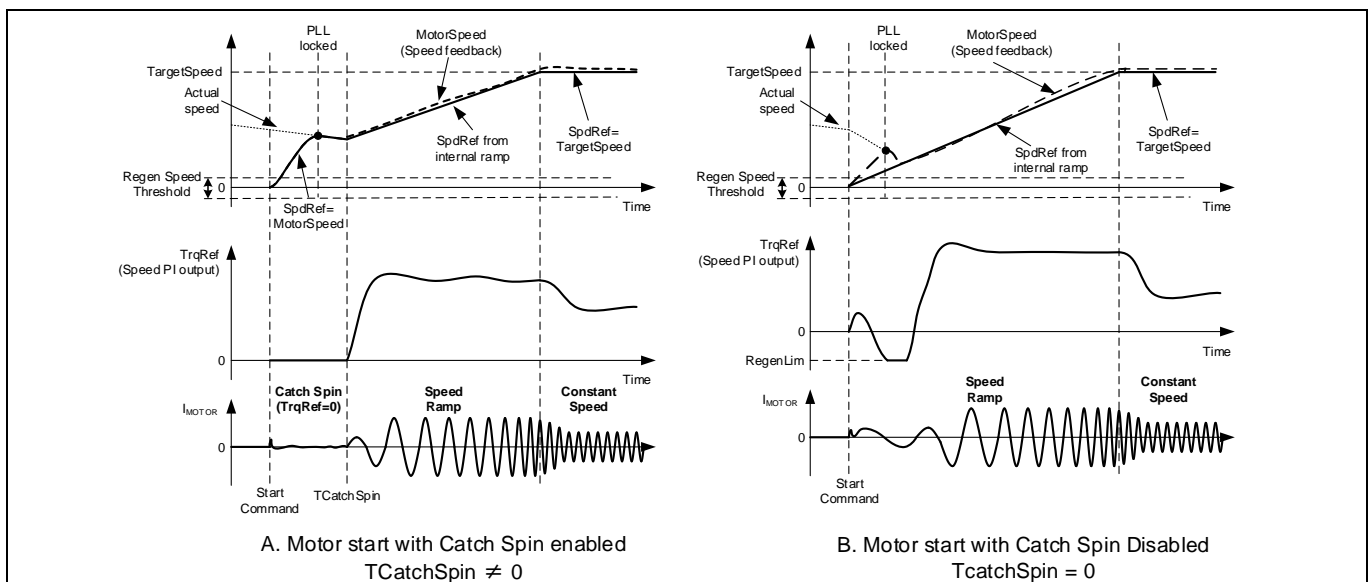

Figure 28 Forward Catch Spin - Motor start with/without catch spin
If the motor is spinning in the same direction as desired, then the catch spin sequence is termed as ‘Forward Catch Spin’. Figure 28 (A) shows an example for ‘Forward Catch Spin’. In this example, at the start command the motor is already spinning (in the desired direction). During the catch spin time, no motoring current is injected. After the catch spin time has elapsed, assuming the flux PLL locks to the actual motor speed, the motor speed at that instance becomes initial speed reference and starting point for speed ramp reference. The motor continues to accelerate or decelerate, following the speed ramp reference to reach the set target speed.
If catch spin is disabled, normal speed control starts immediately after the start command, without waiting for PLL to be locked. Usually the control would still be able to start a spinning motor, but motor speed may not increase/decrease seamlessly. As shown in Figure 28 (B), after the start command, the actual motor speed is higher than speed reference (variable ‘SpdRef’). Hence, the motor is decelerated (using regenerative braking) to force the motor to follow the speed reference (variable ‘SpdRef’). As the speed of the motor is higher than Regen Speed Threshold (variable ‘RegenSpdThr’), the negative torque injected in the motor to achieve deceleration is limited by the value in RegenLim parameter. Once the motor speed matches the speed reference, the motor starts accelerating, following the speed ramp reference to reach the set target speed.